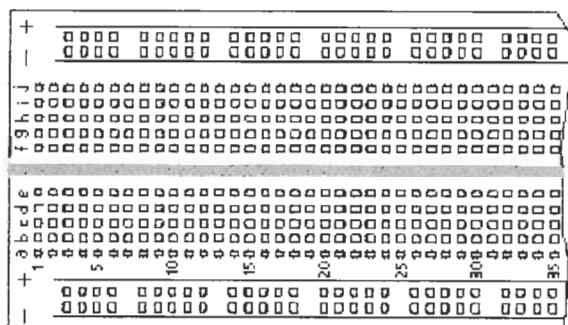

Figure L2-11
- Set your digital multimeter to continuity. Now refer to Figure L2-11. Notice the letters across the top and the numbers down the side of the solderless breadboard.